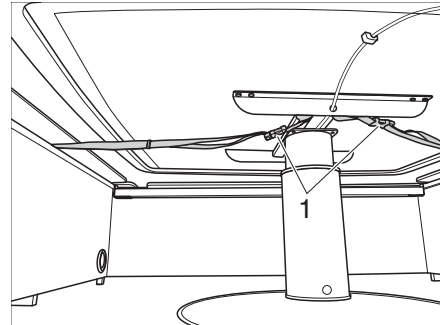

Fig. 60 Securing the lift-off table with belts
- ▶ The lift-off table is not secured to the floor. Before starting the journey, lower the lift-off table to the lower stop and fasten with the belts (Bild 60,1) under the benches.